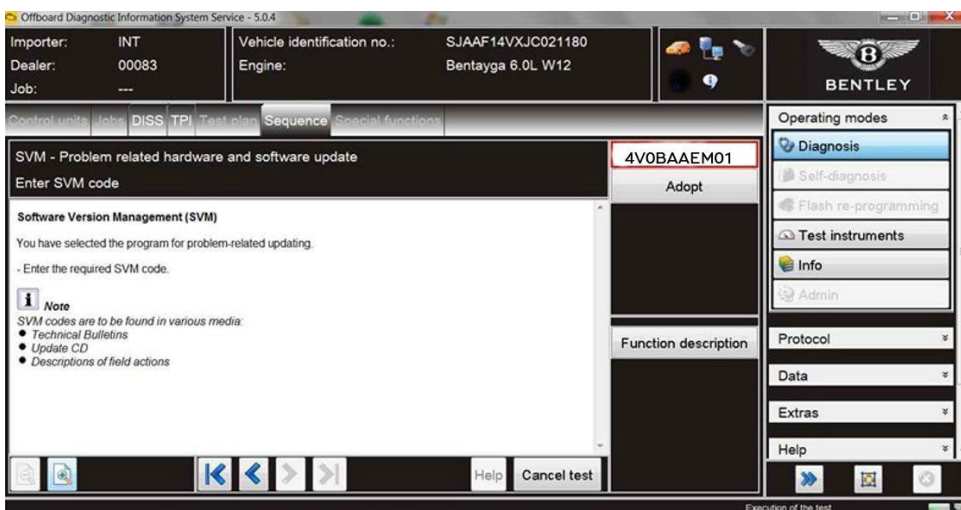

Figure 4
2. On the next screen enter the SVM code 4V0BAAEM01 and select Adopt (Figure 4).